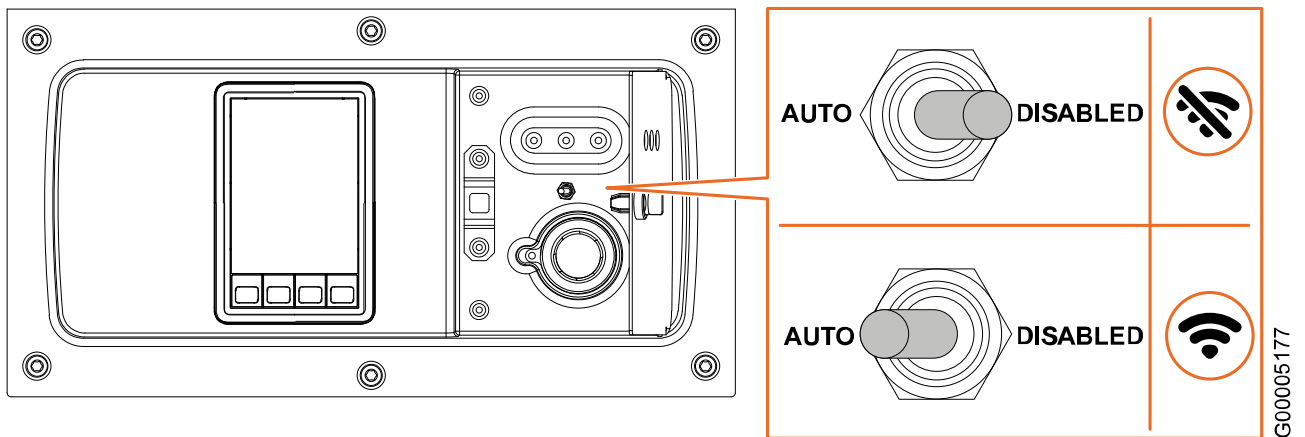

Fig. 42 Connectivity switch
- Connectivity switch towards **DISABLED**: The connectivity is disabled. The top icon in **Fig. 42** is shown on the display.
- Connectivity switch towards **AUTO**: The connectivity is in automatic flight detection mode. The lower icon in **Fig. 42** is shown on the display (empty if there is no reception, filled if there is reception). If the connectivity switch is switched towards **AUTO** while the container is close to an aircraft, the connectivity will not be turned on until the container has left the aircraft.